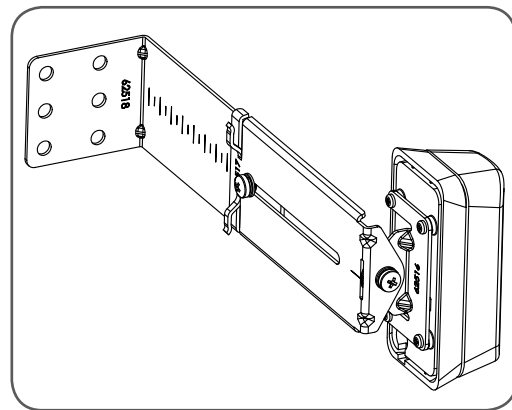

fig 50
- Make horizontal and/or vertical (Fig. 50) adjustment on the transmitter and/or receiver until the red LED turns off on the receiver, indicating alignment.